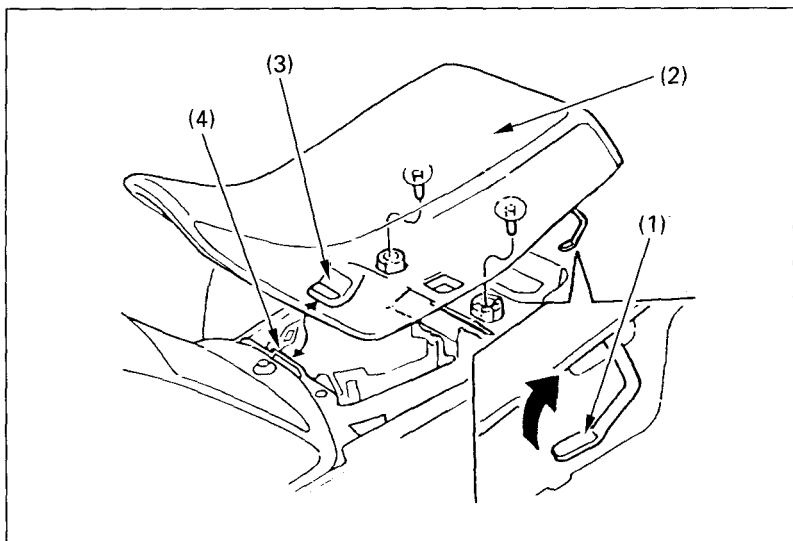

Fig. 4-36
To remove the seat (Fig. 4-36), pull up the seat lock lever (1) at the left side of the seat, then slide the seat backwards and lift it up.